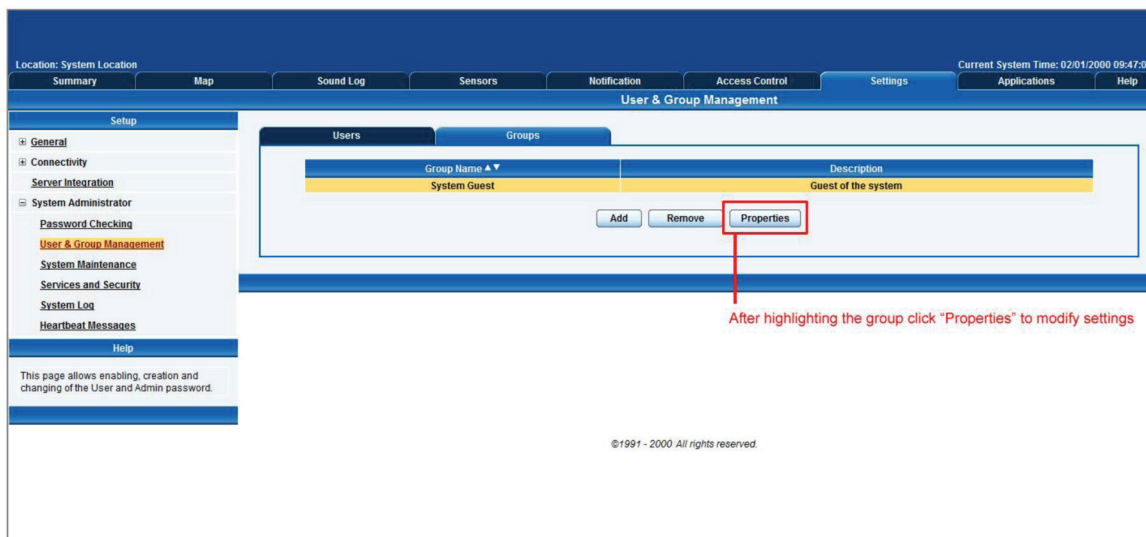

Figure 3-17. User & Group Management screen.
8. If you want to modify your group settings, click on the group you want to modify. Then click on the “Properties” button as shown in Figure 3-17.